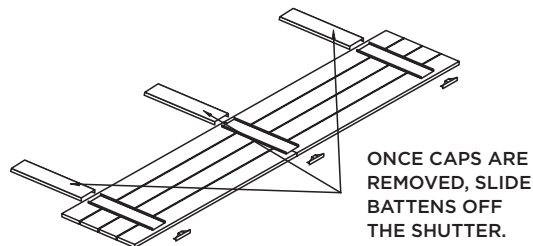

**FIG 1**
1. Remove shutters from the carton and remove one side of the Batten Caps as Shown in Fig. 1 and Fig. 2 with a blunt object such as the shank end of a 1/8" drill bit. Note: If installing with exposed fasteners (shutter plugs); skip step 1 & 2.